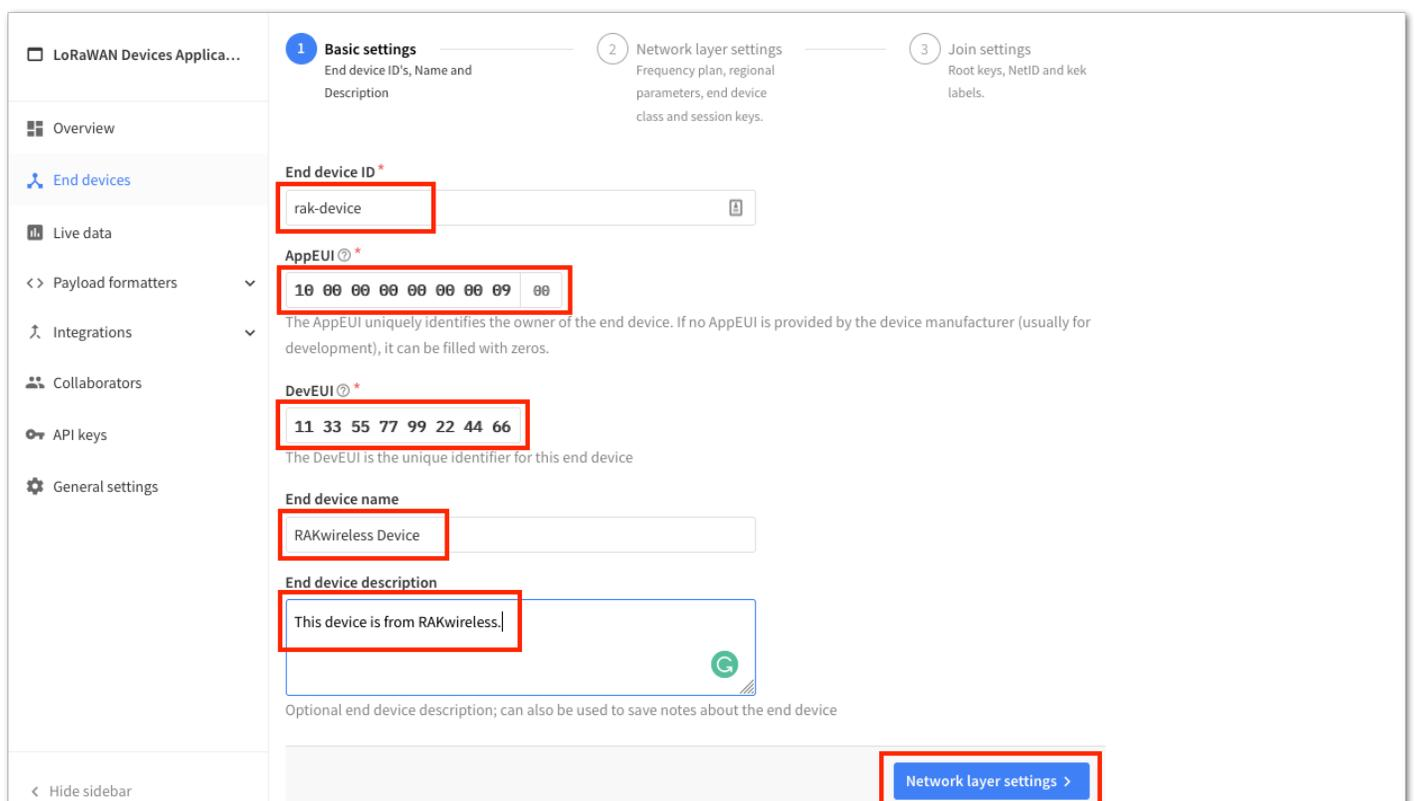

Figure 49: OTAA device information
3. Then you need to put a unique **End device ID** and EUIs (**DevEUI** and **AppEUI**), as shown in **Figure 49**. Check if your module has a DevEUI on the sticker or QR that you can scan, then use this as the device unique DevEUI.